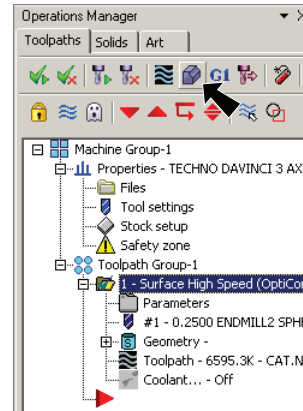

Fig. 20
- Step 1. Click **Verify**  in the Toolpaths Manager, Fig. 20.